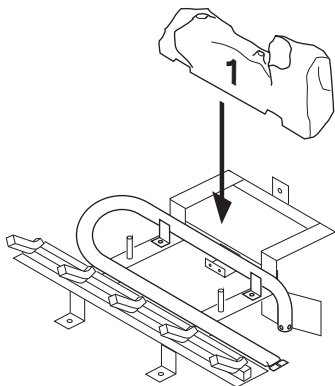

Figure 37 - Installing Log No. 1
It is very important to install these logs exactly as instructed in Figures 37 through 41. Do not modify logs. Only use logs supplied with freestanding burner system. Do not use if any log(s) are broken (see Replacement Parts, page 35).
2. Place log #1 (back log) on top of grate. Make sure notches in the bottom of log fit over the grate (see Figure 37).